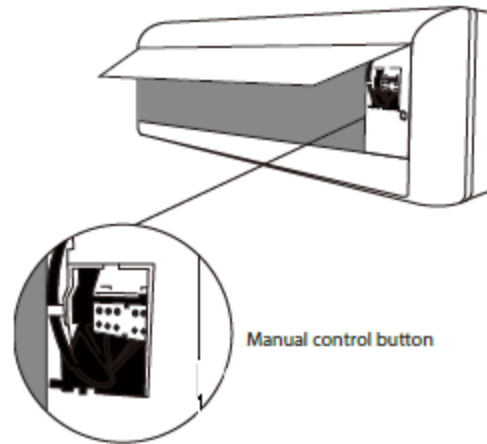

Fig. 10.1
2. The MANUAL CONTROL button is located on the right-hand side of the unit. Press it twice to select the COOL function. See Fig 10.1